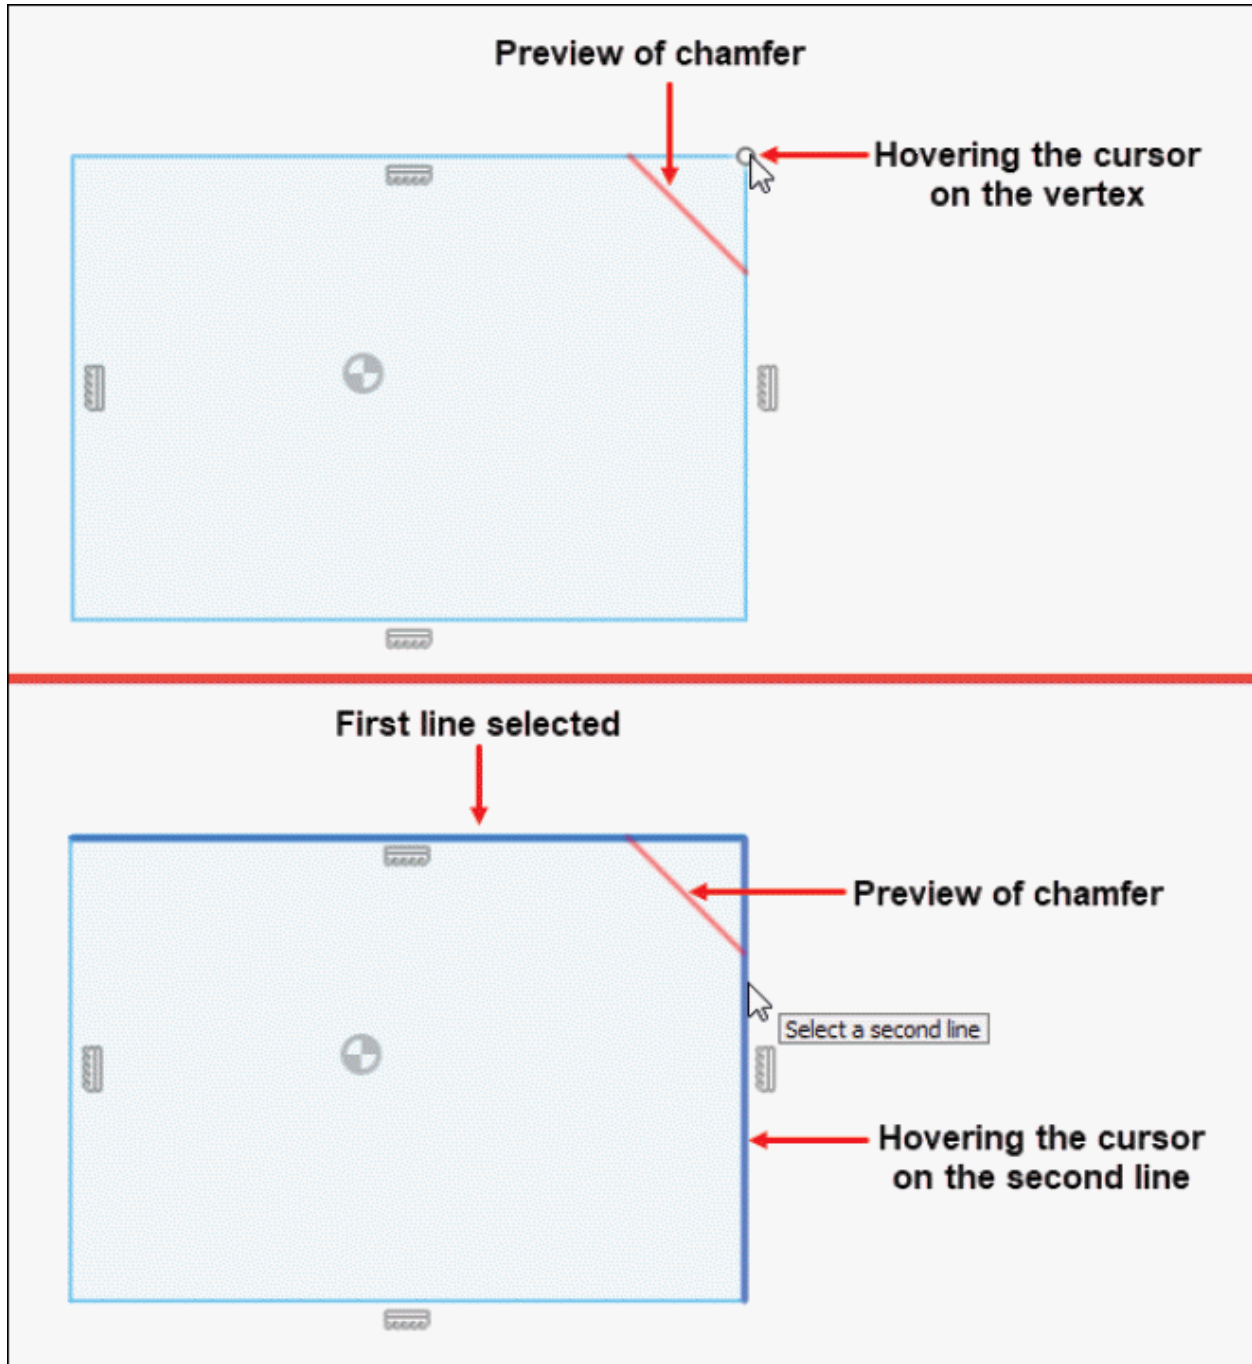

Figure-69. Preview of equal distance chamfer
- Hover the cursor on the vertex of the sketch or select the first line and hover the cursor on the second line. The preview of chamfer will be displayed; refer to Figure-69.
- Hover the cursor on the vertex of the sketch or select the first line and hover the cursor on the second line, the preview of chamfer will be displayed as shown in Figure-69.